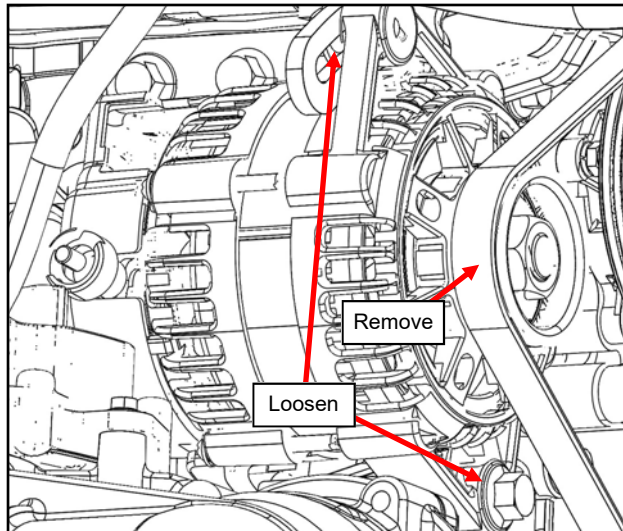

Fig. 2.13 (Loosen Alt Hardware & Remove Belt)
- 2.13 Loosen alternator mounting hardware, rotate alternator forward and remove factory belt per fig. 2.13.